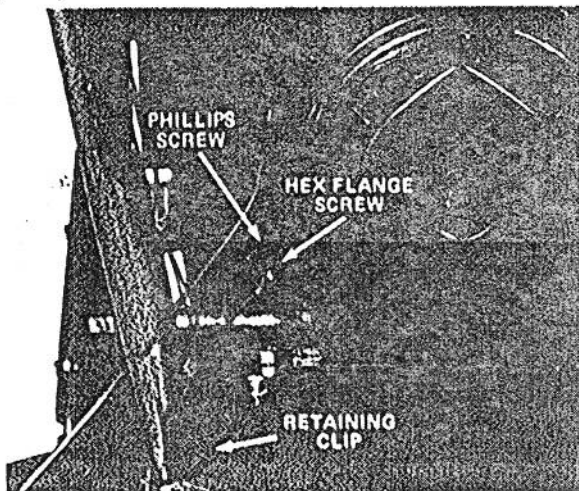

Figure 13
1. Remove phillips screw from wire mounting bracket. Using the phillips screw, install wire with small connector and the original engine wire against top of mounting bracket (Fig. 13).
2. Using special hex flange screw supplied in the loose parts bag, install wire with large connector against bottom of mounting bracket (Fig. 13).
3. Push plastic retaining clip holding the wires into hole on top left of main frame (Fig. 13).